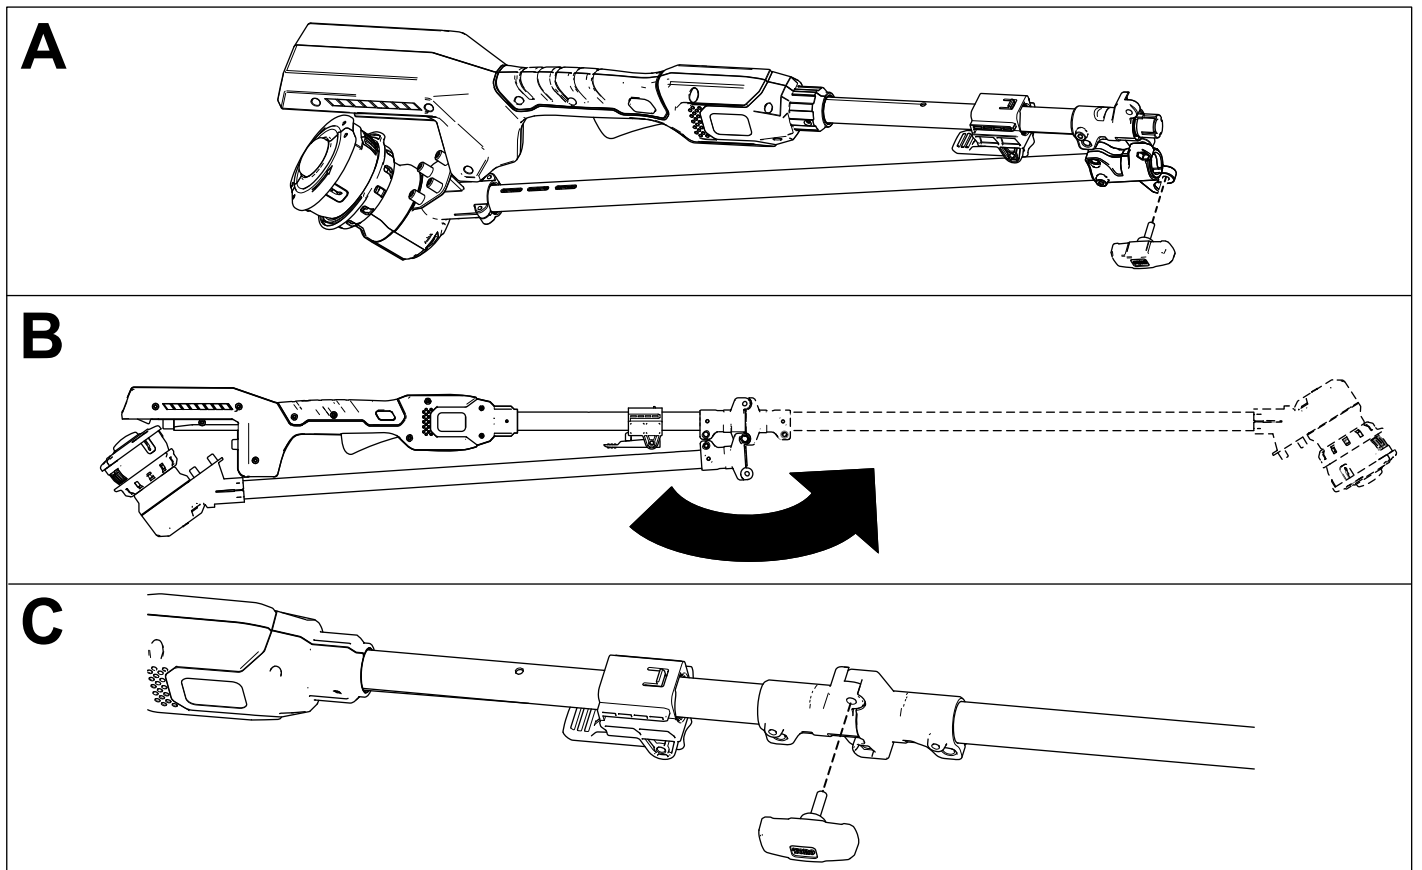

Figure 2
1. Remove the handle connector knob from the tool (A of Figure 2).
2. Unfold the handle (B of Figure 2).
3. Install the handle connector knob to secure the handle (C of Figure 2).